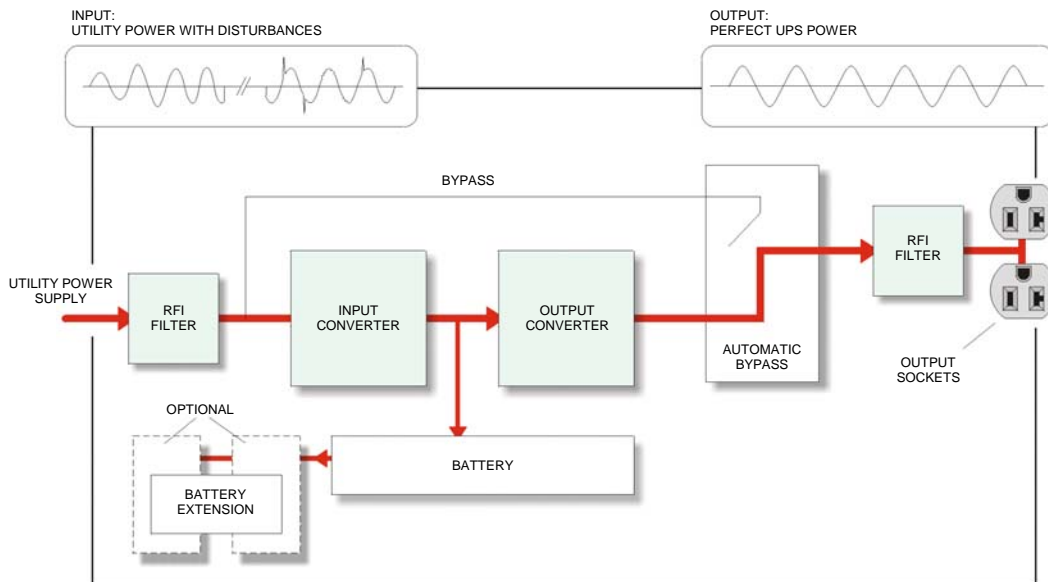

Figure 1 Block diagram of the **Digital Energy™ GT Series 1000-3000 UPS, mains present**
The **Digital Energy™ GT Series UPS** stores electric energy in batteries housed in the unit. This allows the UPS to supply output power even when the incoming mains power is cut off completely. Energy is stored as Direct Current (DC), while input and output energy are Alternating Current (AC) in sine wave form. Therefore the UPS contains an input converter (AC to DC) and an output converter (DC to AC) (See fig.1).